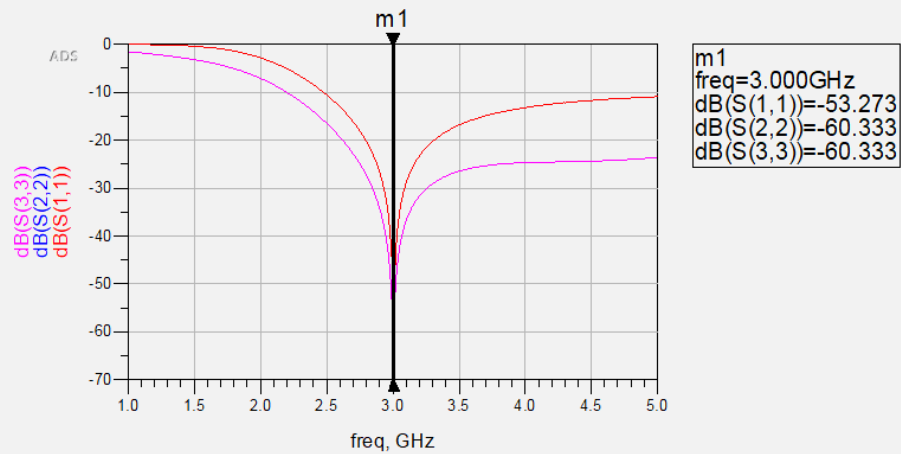
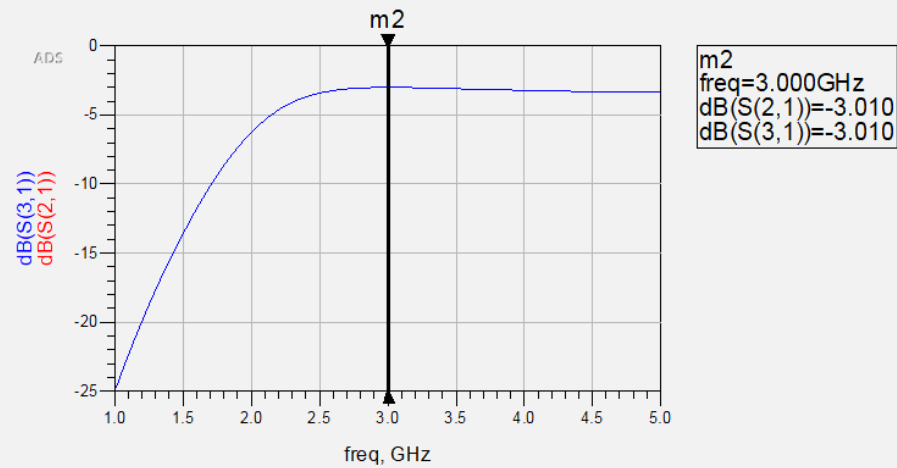
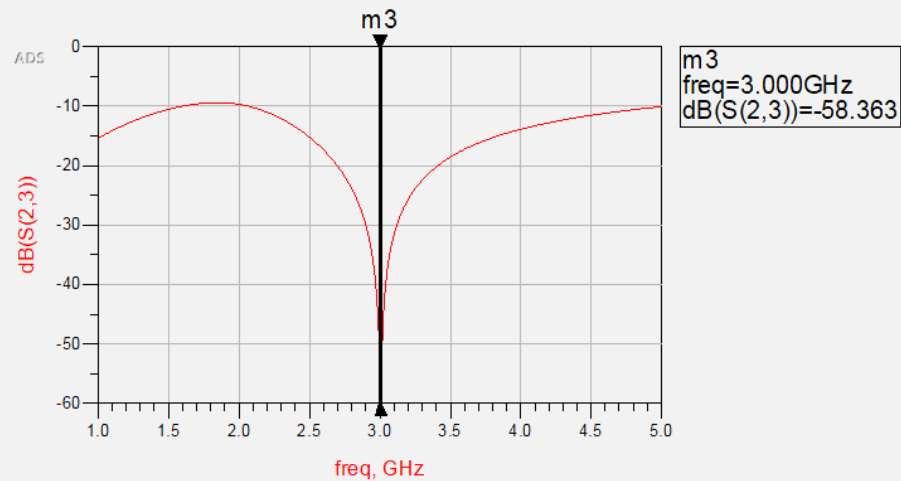

Figure 13. $S(1,1)$, $S(2,2)$, and $S(3,3)$ for the power divider
Figure 14. $S(2,1)$ and $S(3,1)$ for the power divider
Figure 15. $S(2,3)$ for the power divider
3. Set up the S-Parameter simulation from **1 GHz** to **5 GHz** with a step size of 0.01 GHz. Perform the simulation and observe the responses shown in Figures 13, 14, and 15.
Figure 13 shows that there is very little reflection into each port at the design frequency of 3 GHz. Figure 14 shows that there was also about half power going from the input port into each of the output ports. Note that the schematic simulation does not take into account the effect that the layout will have on the results. This will be shown in a later simulation. Figure 15 also shows that there is little coupling between the two output ports. This is a direct result of adding the isolation resistor.